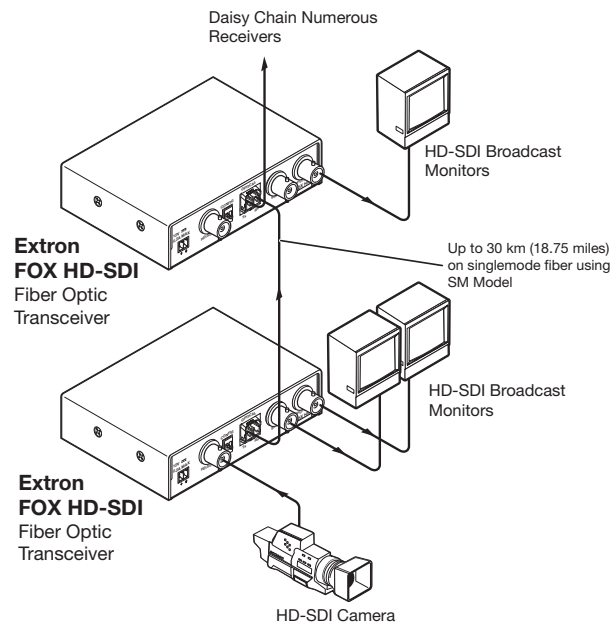

Figure 1-1 — Typical FOX HD-SDI application
- FOX HD-SDI SM, a singlemode, very long distance (up to 30 km [18.75 miles]) transceiver (figure 1-1)